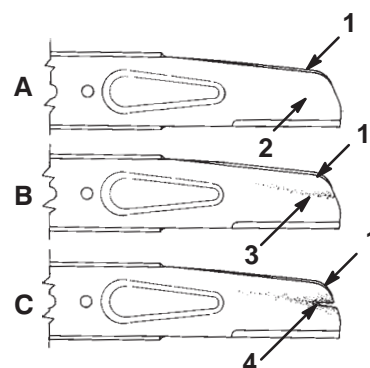

**Figure 17**
- Tip the lawn mower onto its **right** side (air cleaner up) (Fig. 17).
- Remove the blade bolt, the lockwasher, the accelerator, and the blade (Fig. 17).